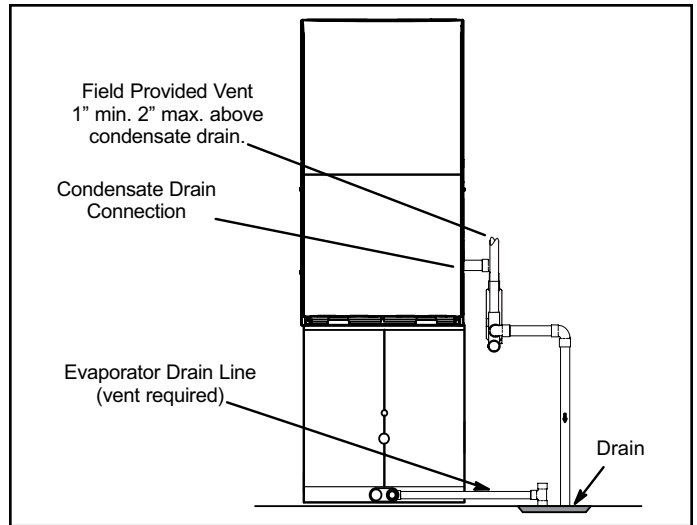

Figure 41. Unit with Cooling Coil Using Separate Drain
5. Figure 41 shows the furnace and evaporator coil using a separate drain. If necessary the condensate line from the furnace and evaporator coil can drain together. See Figure 42. The field provided vent must be a minimum 1" to a maximum 2" length above the condensate drain outlet connection.